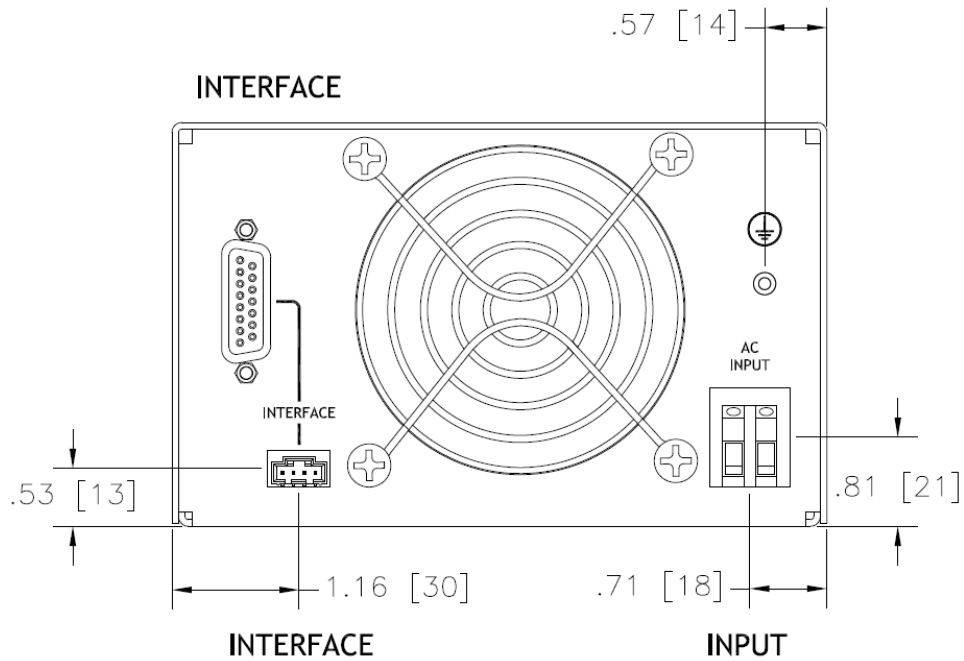

Figure 5, CCPF-500 Input Side Drawing
Outline Please see Figure 4, Figure 5, and Figure 6 for outline details.
- **Required wire and connectors:** Refer to Figure 5, CCPF-500 Input Side Drawing and Figure 6, CCPF-500 Output Side Drawing for the locations of connections. Table 3, CCPF Connections below shows required cables and connectors: